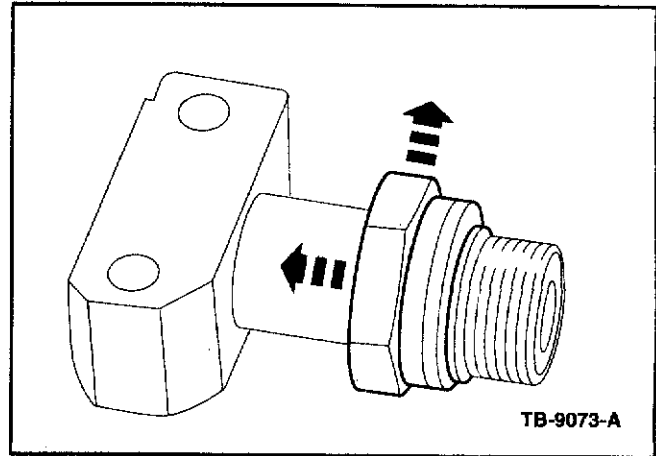

Figure 7 - Article 08-9-9
5. Prior to installing the new jam nut fitting, lubricate the entire jam nut fitting with clean engine oil, rotate the jam nut clockwise to the base of the branch tube adapter. The adapter is threaded to the jam nut. (Figure 7)